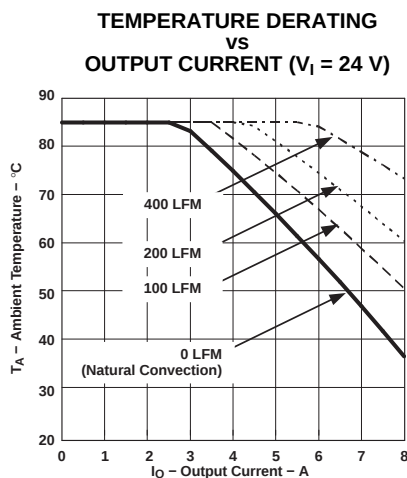
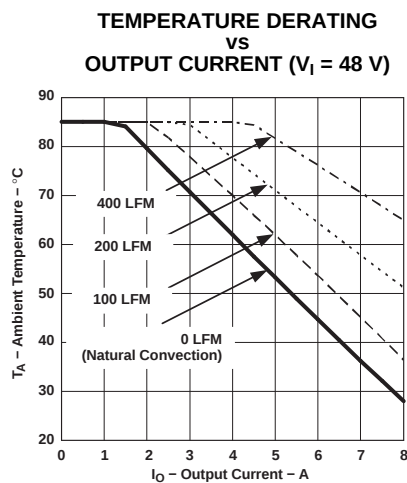

Figure 9.
Figure 10.
- (4) The temperature derating curves represent operating conditions at which internal components are at or below manufacturer's maximum rated operating temperature. Derating limits apply to modules soldered directly to a 100-mm × 100-mm, double-sided PCB with 2 oz. copper. Applies to Figure 9, and Figure 10.